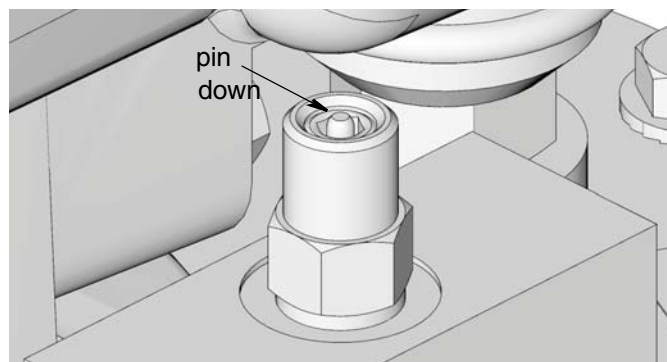

FIG. 10
2. Verify the Auto-Fill Shut Off (S) pin is down, indicating it is reset (FIG. 10).
Make sure Auto-Fill Shut Off (S) pin is down. See FIG. 10, page 11.